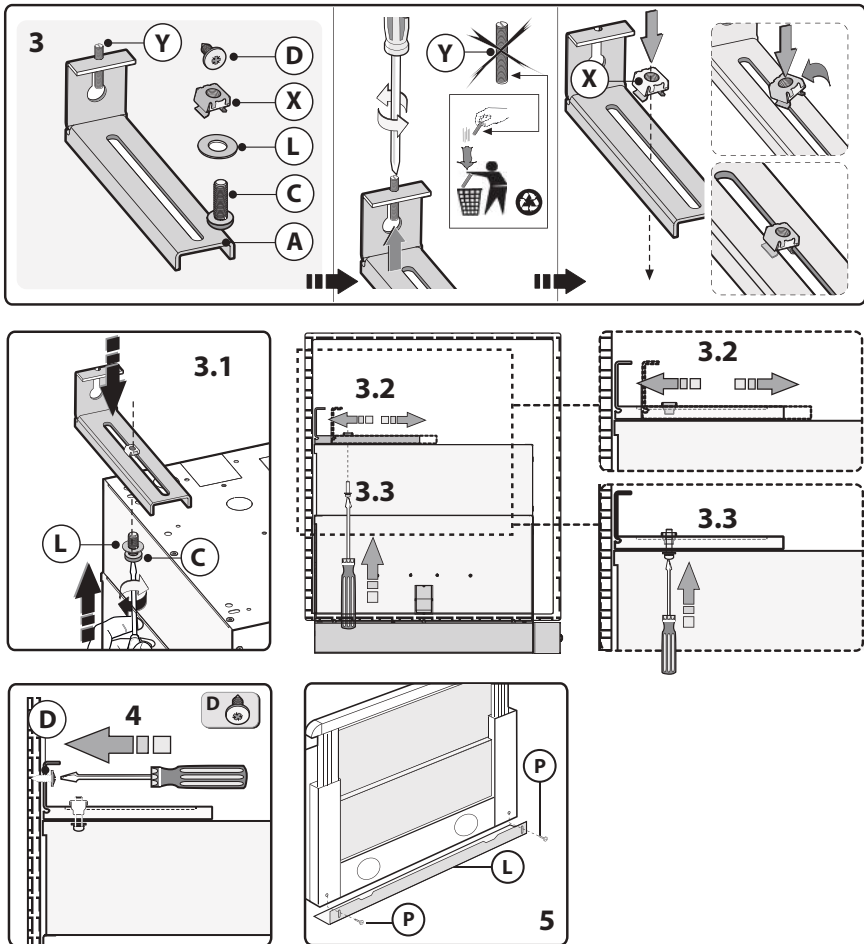

Fig.4
- Once you have fastened the hood to the wall cabinet, adjust the spacer L, with the screws P, to make the device line up with the rear wall cabinet (Fig. 4 - step 5).
3 - Make sure the thickness of the wall cabinet is within the parameters indicated in Fig. 4 - step 2.
4 - Install the hood in the wall cabinet and make sure the 2 side springs F are connected correctly. Fasten the hood to the wall cabinet using the screwdriver and the relative screws M and tighten until the device is firmly against the wall cabinet (Fig. 4 - step 2).